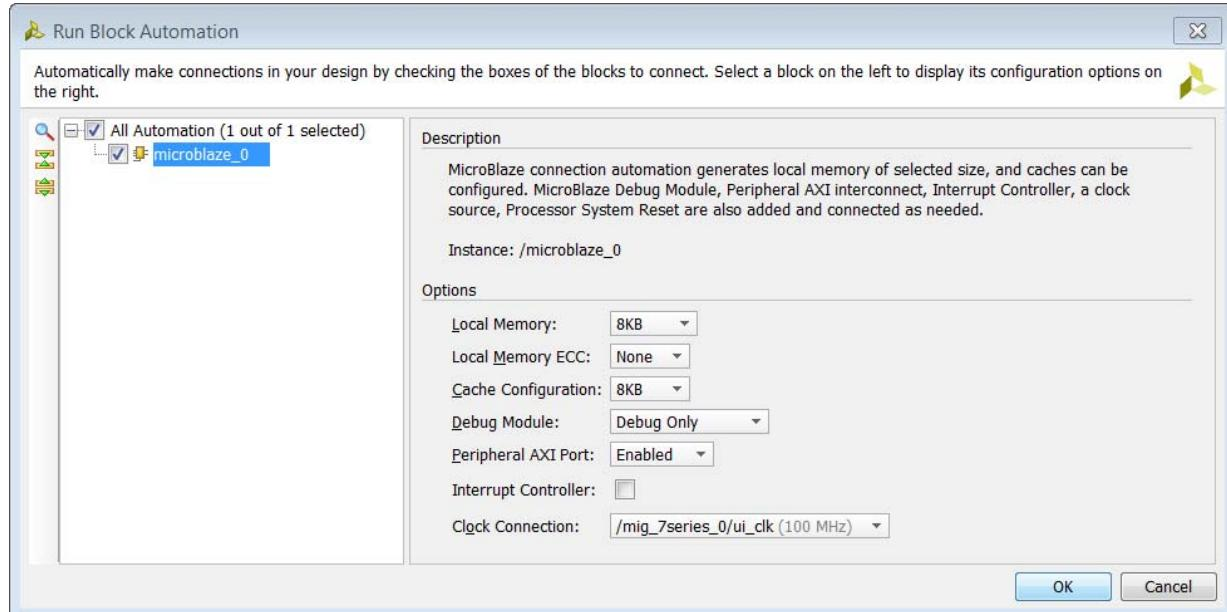

*Figure 5-29: Connecting the On-Board Clock Source to the MIG Core*
3. In the Create Interface Port dialog box, specify the options as shown in Figure 5-29.